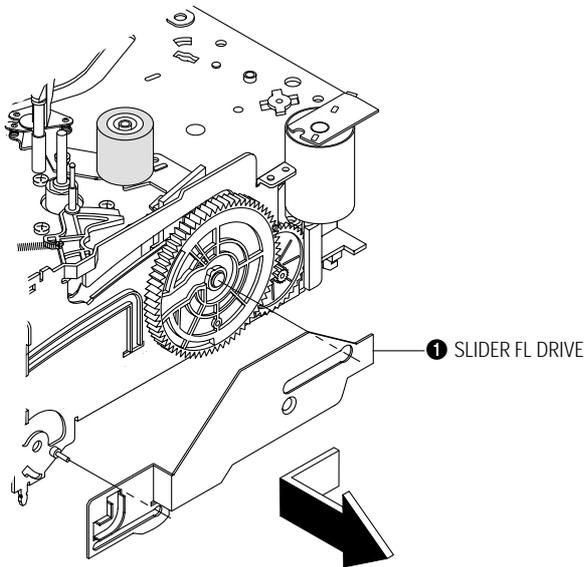

Fig. 4-12 Slider FL Drive Removal
- 1) Pull the Slider FL Drive ❶ to the front direction.
- 2) Remove the Slider FL Drive ❶ in the direction of arrow. (Refer ti Fig. 4-12)